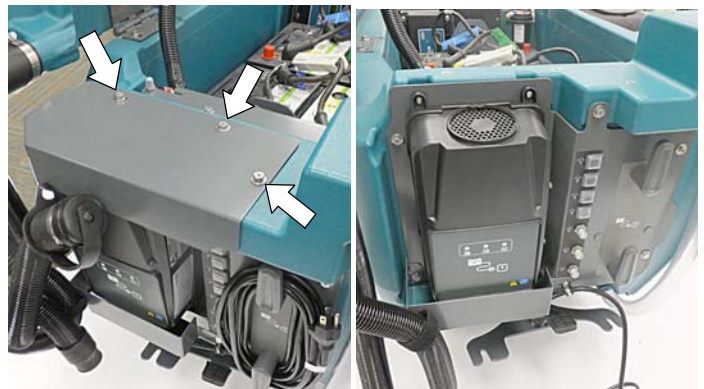

Fig. 16
- Remove the charger cover bracket from machine. Three screws hold bracket in place (Figure 16).